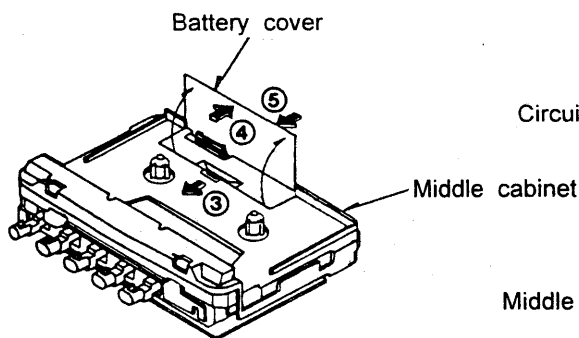

Fig.5
- Open the battery cover in the direction of arrow ③. (See Fig.5).
- Remove the battery cover in the direction of arrow ④ and ⑤. (See Fig.5).